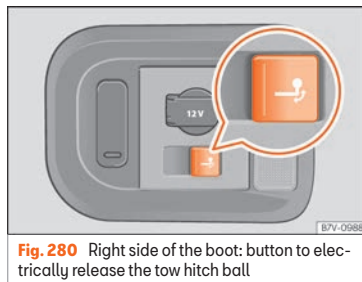

Fig. 280 Right side of the boot: button to electrically release the tow hitch ball
- Press the knob briefly »» **Fig. 280**. The tow ball is released electronically and folds out automatically; the button indicator will blink.
- Press the knob briefly »» Fig. 280. The tow ball is electronically released; the indicator blinks.